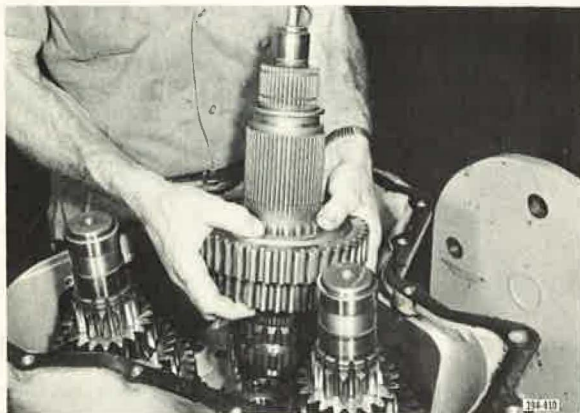

Figure 12. Removing Front Mainshaft Assembly
5. Remove front mainshaft assembly. See Figure 12.